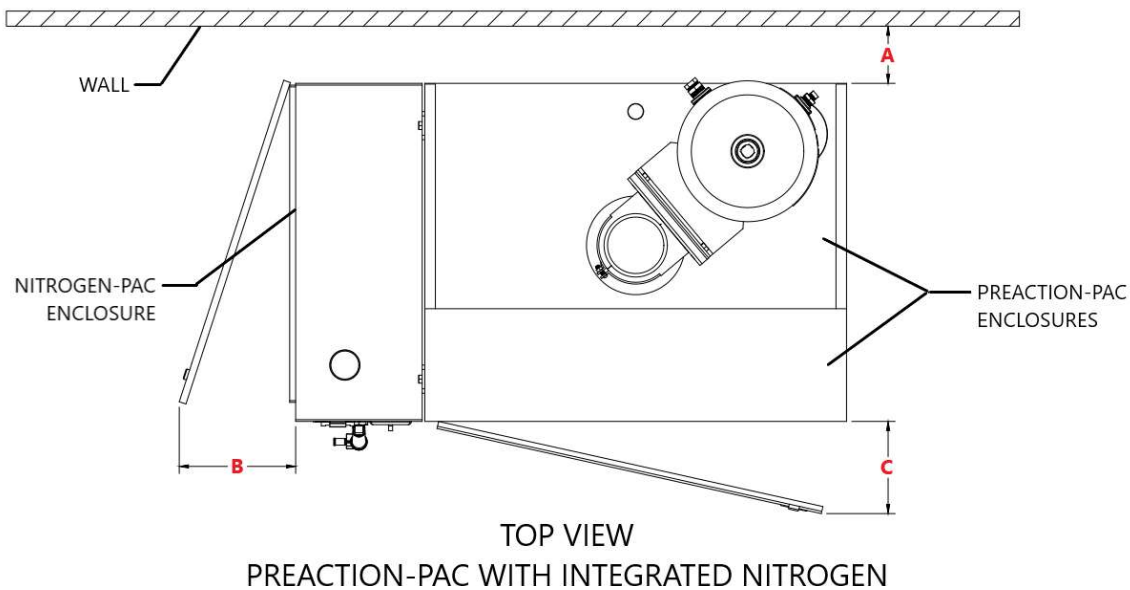

Figure 3 – Required Clearances
3.2.3 **Clearances.** Refer to **Figure 3** and **Table 6**. In addition to the assembly location instructions in the manuals referenced in 3.2.1 and 3.2.2, clearances specific to the **PREACTION-PAC™ with Integrated Nitrogen** must be observed and planned for at installation.